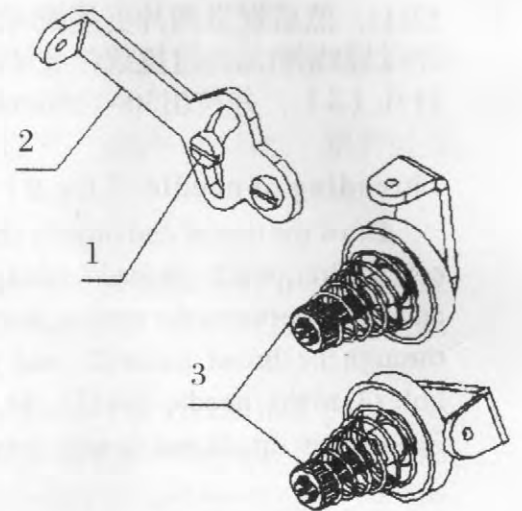

图3
缝线张力的大小是影响线迹松紧的主要因素。如果缝线张力太弱，使缝纫后线迹松散无力，而会出现袋口有漏洞现象。若张力太紧，则线迹缺乏足够的弹性且缝料起皱不平。缝线张力的调整原则是以缝线对缝料的收紧程度衡量：一般细软缝料可稍弱些且直针线（面线）张力一定要大于弯针线（底线）的张力。调节器调整张力的方法是：旋转夹线螺母3（见图3）顺时针旋转张力增大，反之减小。
Thread tension is critical to stitch tension. If the thread tension is too weak, the stitches will be so loose that bag may leak; if the thread tension is too strong, the stitches will be not elastic enough and the sewing material will be rumpled. In principle, the thread tension should be adjusted according to the stitch tension. While sewing delicate materials, the thread tension should be weak, and the tension of upper thread should be stronger than that of lower thread. How to adjust: adjust the thread tension nut (fig 3), turn it clockwise to increase the tension, and counter clockwise to decrease the tension.
5、穿线架高低的调整（图3）
Adjusting the height of thread guide (fig.3)